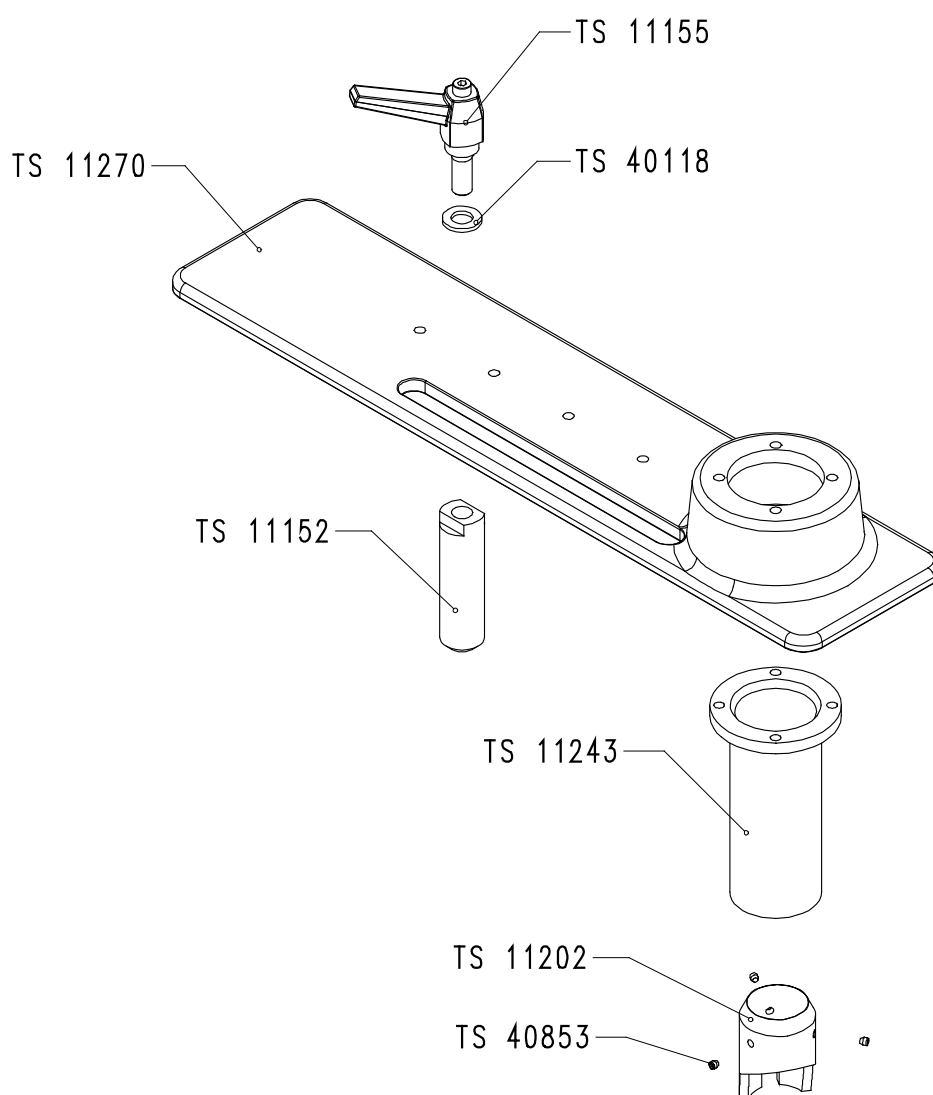

Figure 11-6: french base plate
- Figure 11-6: french base plate